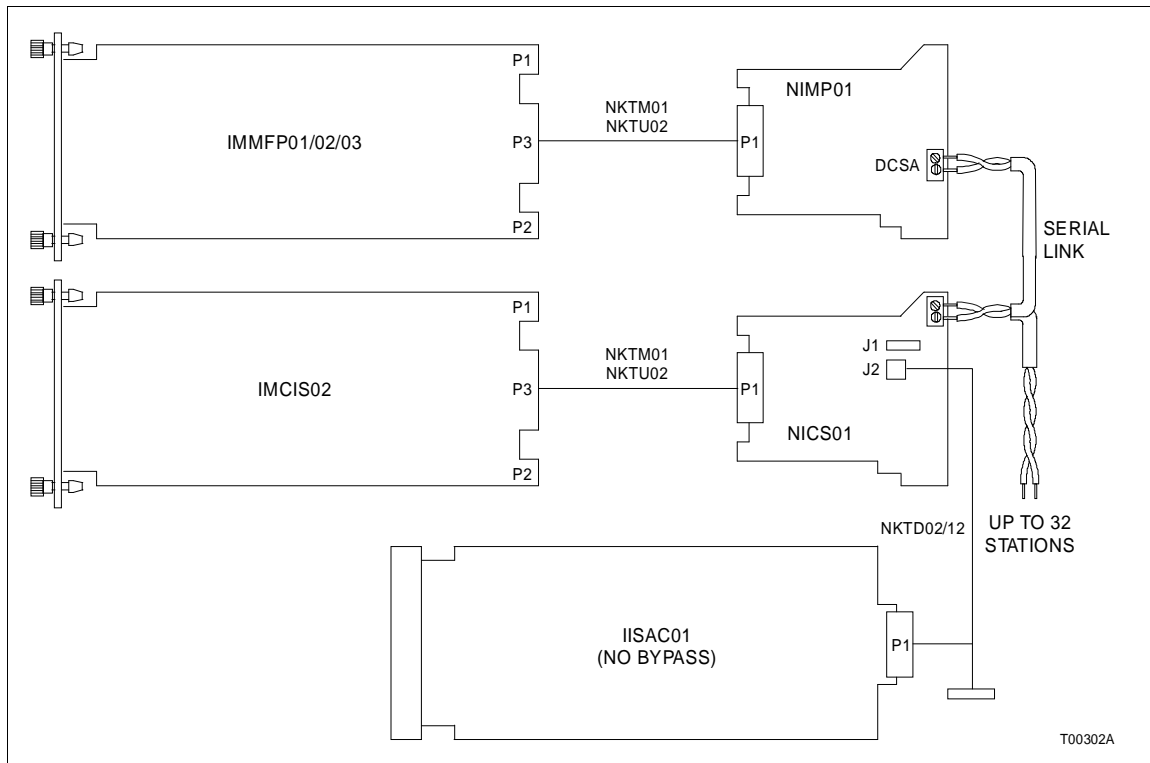

Figure 3-7. Cable Connections for the ICS Termination Module with One Station, No Bypass
5. The ICS termination module can terminate up to 4 SAC stations without bypass. Figure 3-7 shows a cable diagram of one station terminated on the ICS termination module.